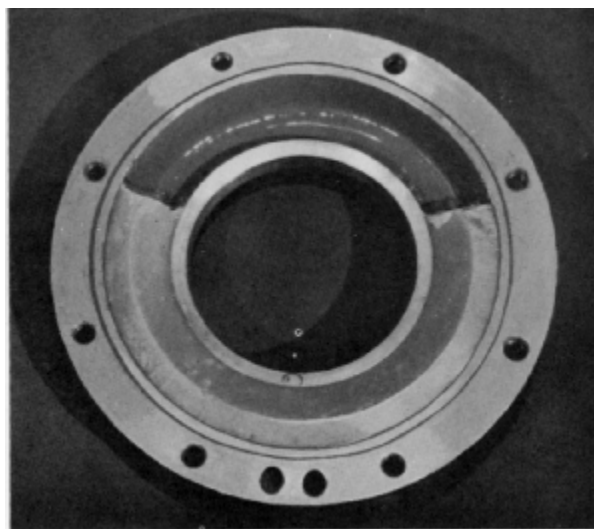

Fig. 3 - Grease Position
6. Grease should be solidly packed only into the lower 200° - 270° (depending on the parts and specified quantity) of the cap or cover, keeping the ungreased portion at the top when motor is in operating position, Fig. 3. The bottom of caps and covers can be determined as follows: